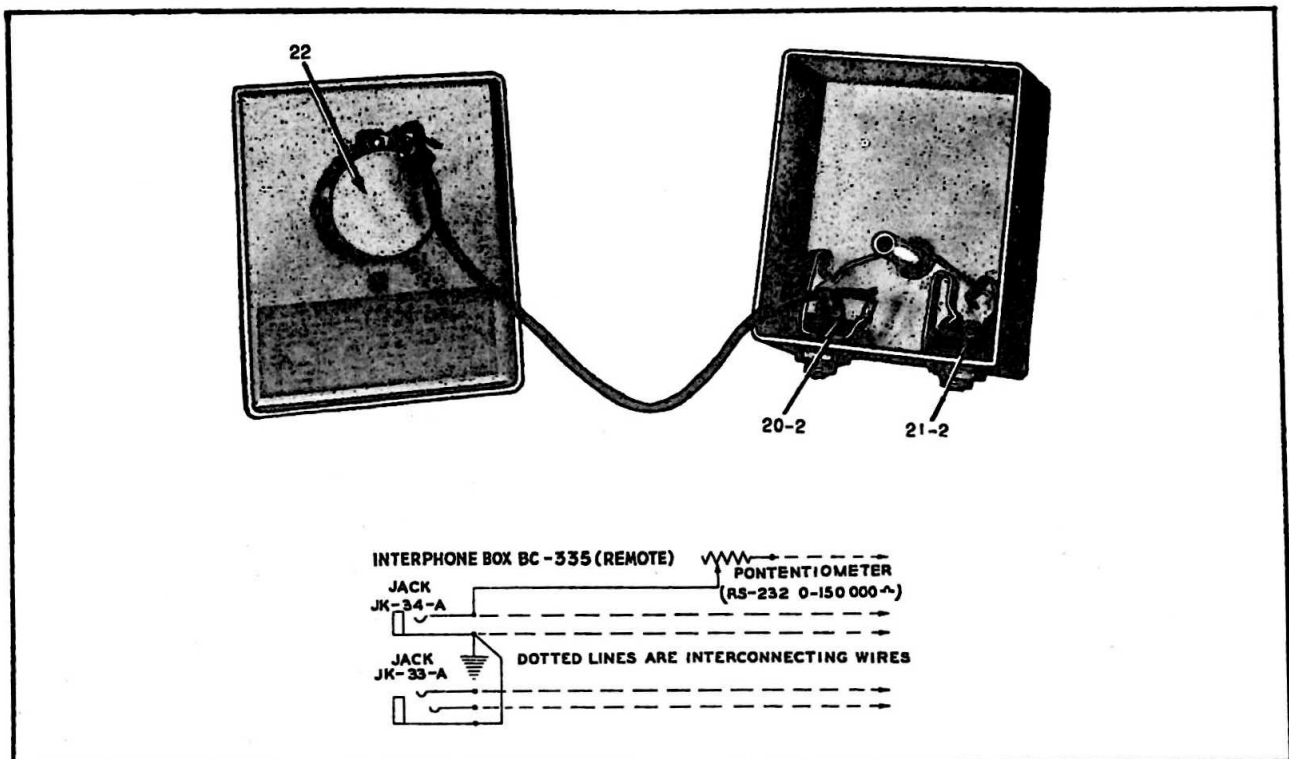

Figure 1-13. Interphone Box BC-335—Interior View and Schematic Diagram
(4) **OTHER PARTS.**—Examine the various switches, plugs, jacks, cordage, etc. (See Figs. 1-13 and 1-14), and repair or replace defective items.